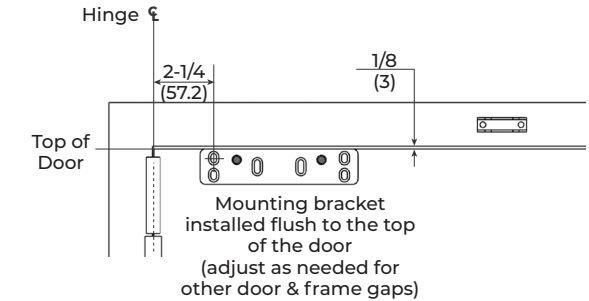
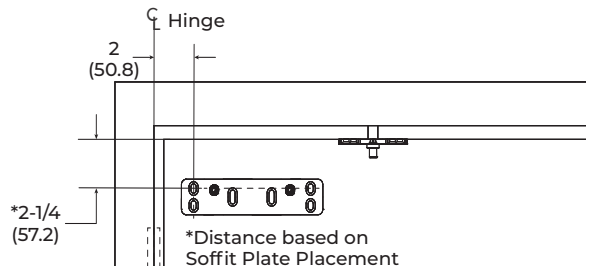

Figure 7 Pull Application
Figure 8 Push Application
1. Measure and mark the first mounting hole according to template. (Figure 7 & Figure 8)